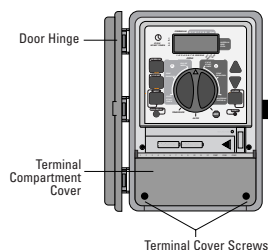
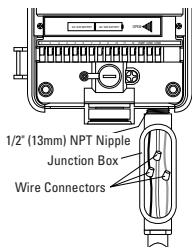

FIGURE 18: Outdoor Timer, Showing Terminal Cover
FIGURE 21: AC Wiring Using Junction Box
- Take off the terminal compartment cover by unscrewing the two screws and pulling the plastic cover forward. [See figure 18], this reveals the AC Power Cover [Figure 21].
- Take off the terminal compartment cover of the controller by unscrewing the two screws and pulling the plastic cover forward. [Figure 18].
The controller has a standard external power connection [Figure 21]. Use this 1/2 inch (13mm) NPT nipple to connect the controller to a standard electrical junction box that should be UL Listed (or equivalent) or comply with IEC or EN standards (or equivalent).
- Connect the junction box (not included) to the NPT nipple [Figure 21].